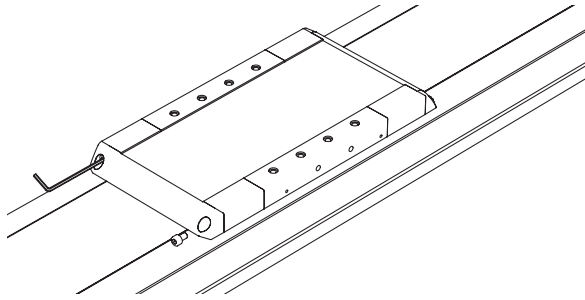

Fig. 7.7 Removing/mounting the carriage end piece
- ▶ Undo the carriage end piece screws. Remove the end pieces from both ends of all carriages (see Fig. 7.7).
- ▶ Place the carriage end pieces on the cover strip deflection as shown in Fig. 7.7 and hand-tighten the mounting screws.